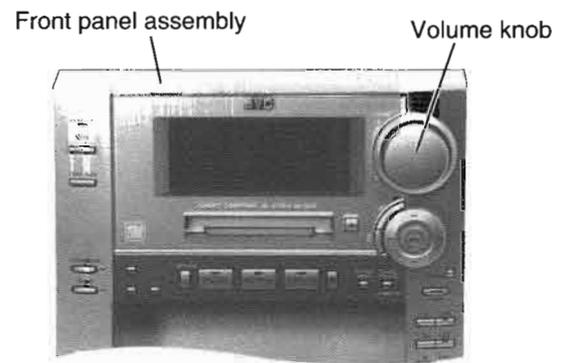

Fig.18
■ **Removing each board of the front panel assembly (See Fig.18 to 20)**